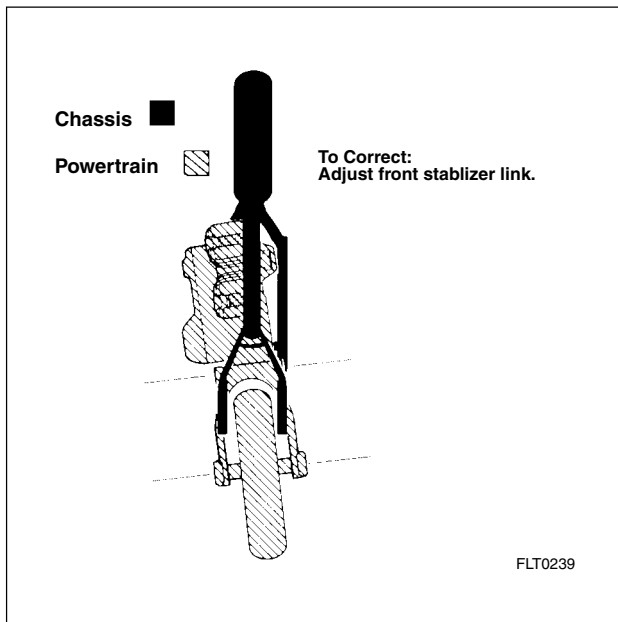

Figure 2-38. Horizontally Misaligned
- f. Loosen jam nuts, and using the center hex, adjust the front stabilizer link as required to obtain equal measurements at all four points (+/- 0.030 inch or 0.76 mm). See Figure 2-38.